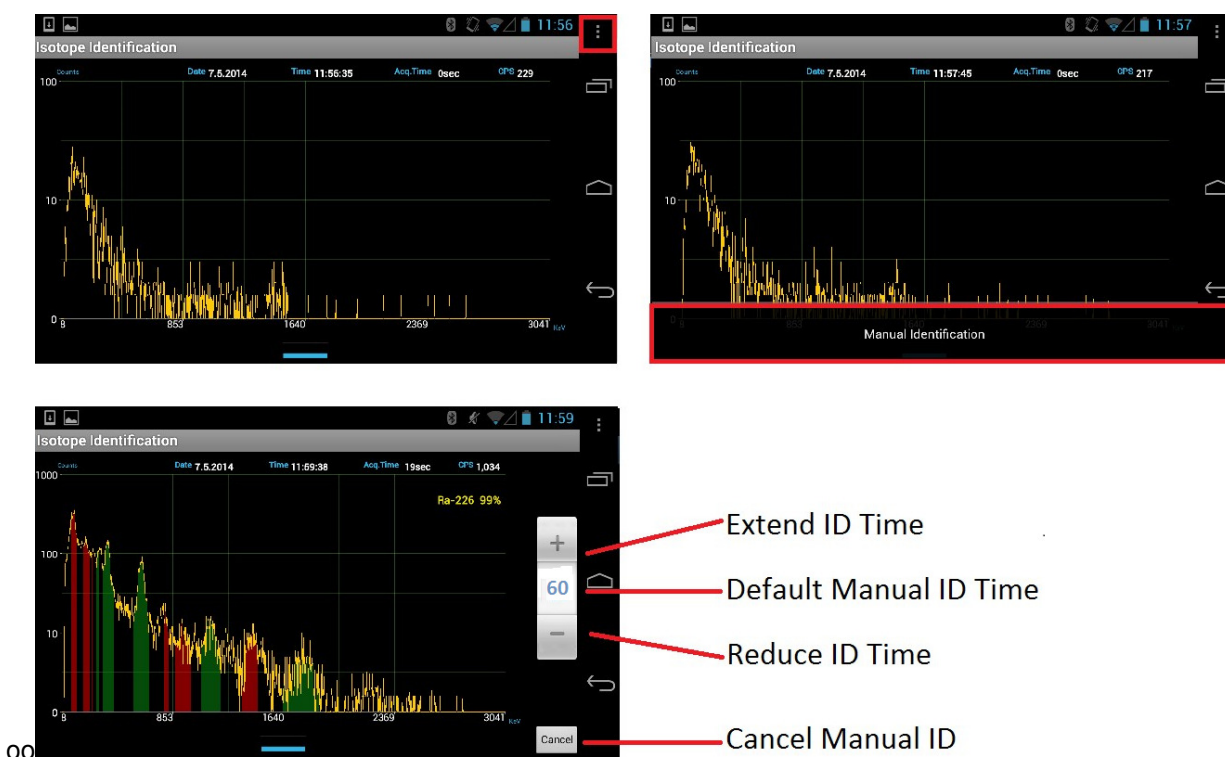

Figure 4.17. Manual Identification example
2. Touch the menu button to display the Manual Identification bar at the bottom of the screen (Figure 4.17).